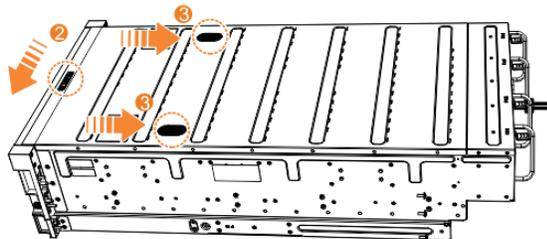

Figure 135. Replacing the top cover
7. Push the cover release lever to the side (2) as shown in Figure 135 on page 197.
8. Slide the cover towards the back of the enclosure (3) back until it stops, as shown in Figure 135 on page 197.